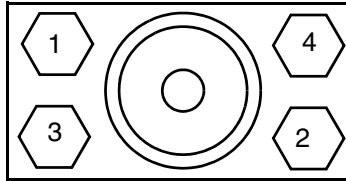

Figure 59. Bonnet Bolt Torquing Sequence
6. Tighten all bonnet bolts to 2.8 N•m (2 lb•ft) per the sequence shown in Figure 59.